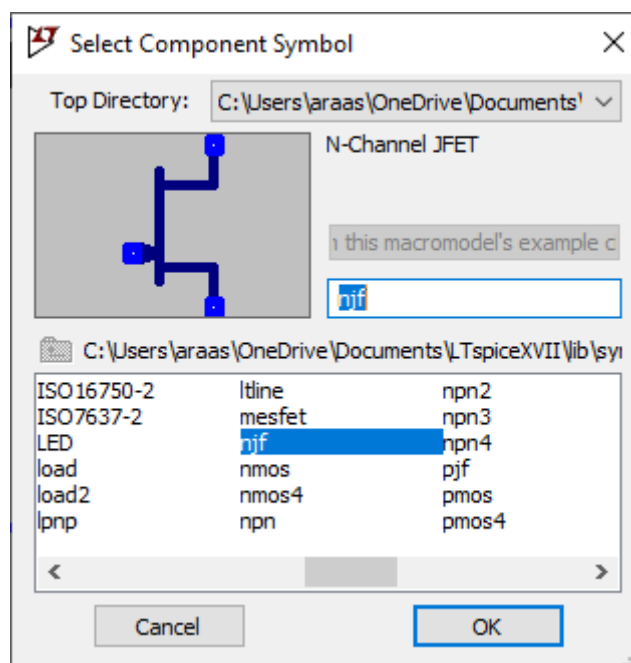

Fig. 1. njf in component library
2. Search for **njf** (N-channel JFET) as in Fig. 1.